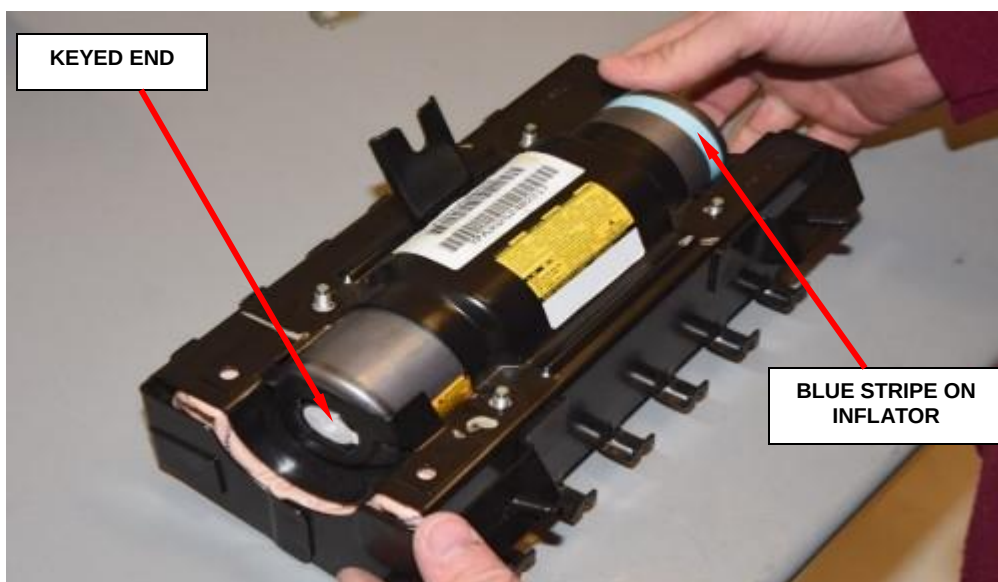

Figure 121 – Insert Inflator
- e. Remove and discard the four mounting nuts and stopper plate from the passenger airbag module (Figure 121).